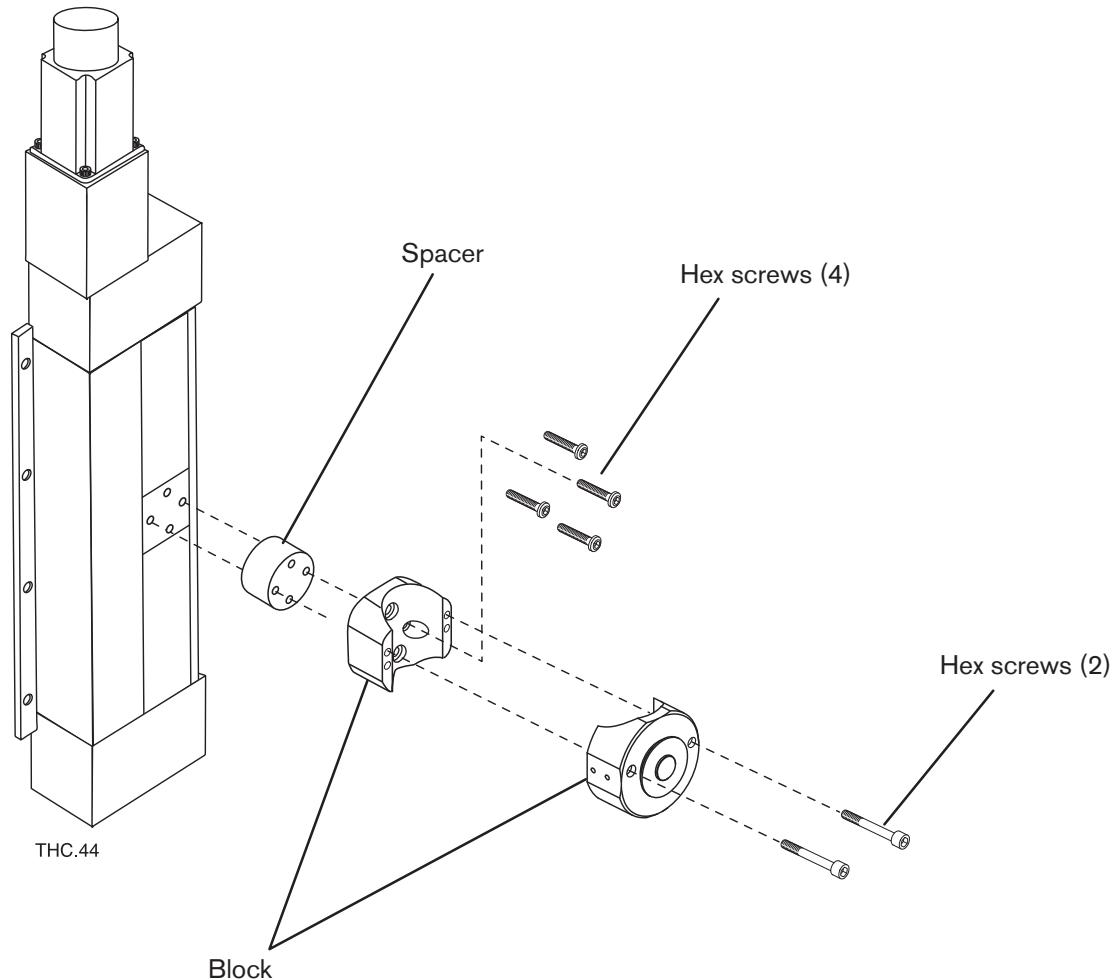

Figure 3-4 X-Y lifter assembly torch mounting block
- Mount the torch mounting block kit to the X-Y lifter assembly. See Figure 3-4. Refer to Section 6, *Parts List* for a complete list of available kits and kit parts breakdowns.